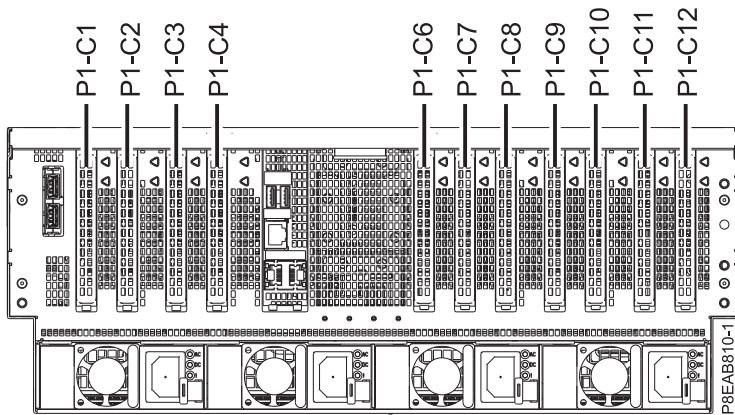

Figure 19. PCIe adapter slot locations in the 8408-44E or 8408-E8E system
1. Familiarize yourself with the locations of the PCIe adapter slots. The PCIe adapters are installed in the rear of the system. Figure 19 on page 29 shows the locations of the PCIe adapters in an 8408-44E or 8408-E8E system.